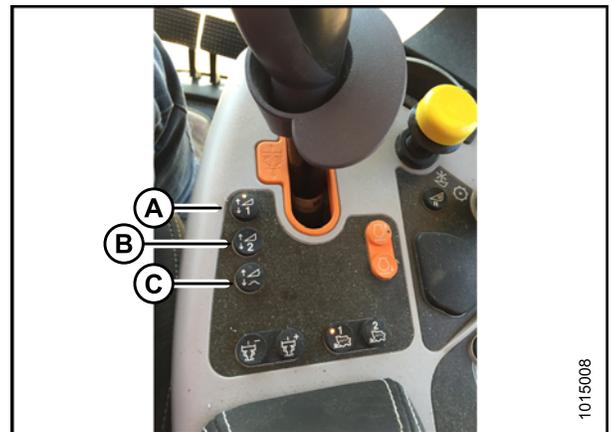

Figure 3.368: New Holland Combine Controls
5. Select one of the auto height set point buttons shown in Figure 3.368: *New Holland Combine Controls, page 221*.